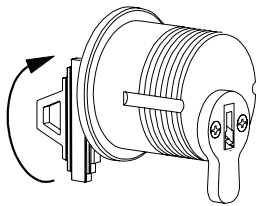
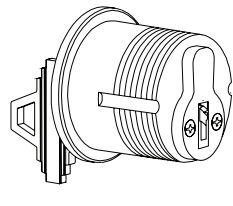

Figure 3-2A
Figure 3-2B
- 3.2. Insert key and rotate 180° (Figure 3-2A) so cylinder cam is in normal position (Figure 3-2B).